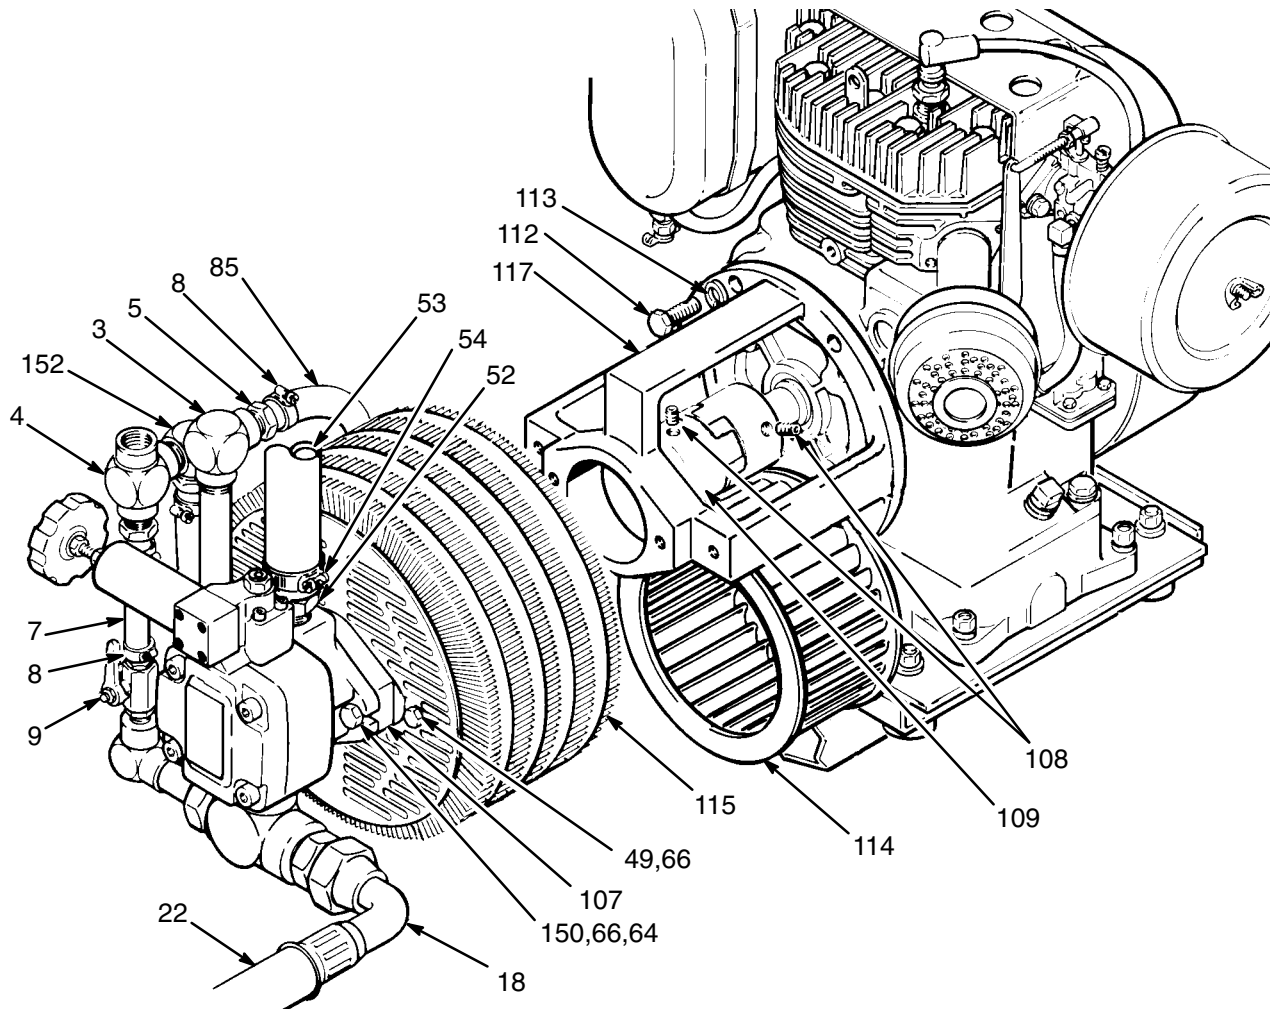
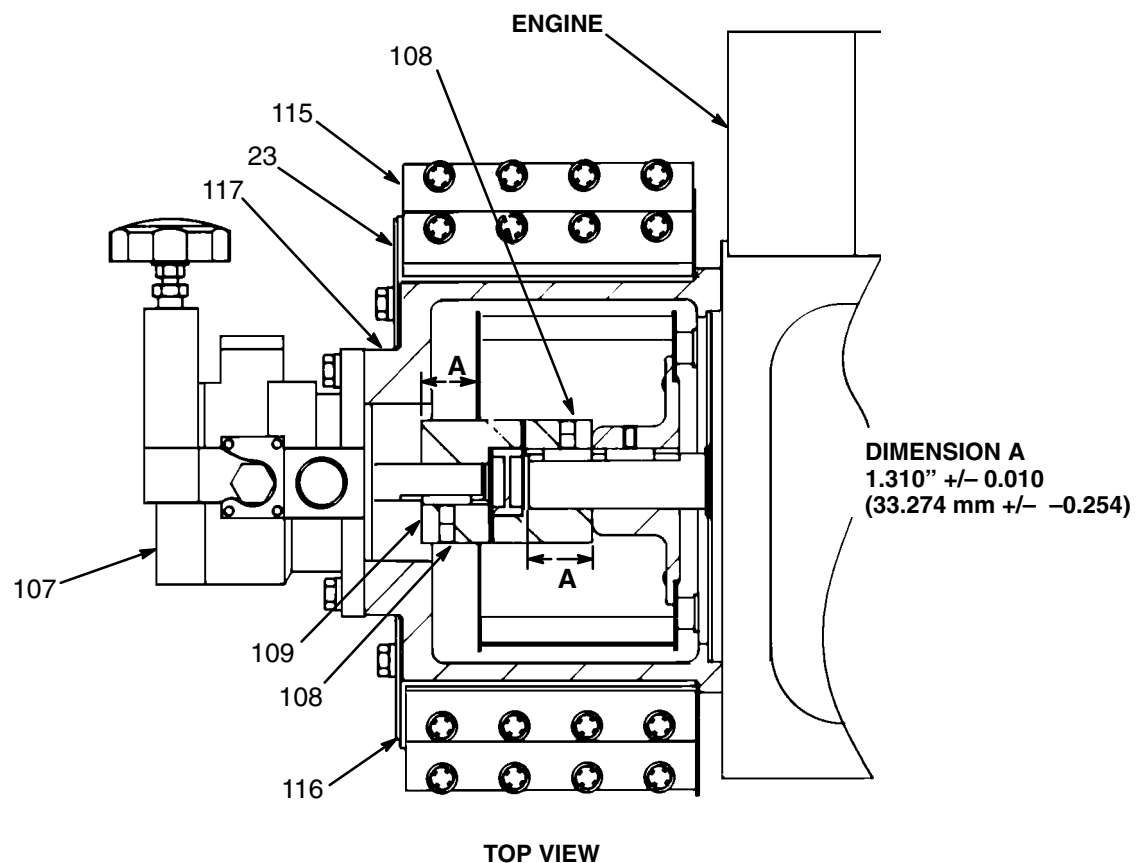

Fig 12
Fig 13
2. Unscrew the reservoir drain plug (51), having a container ready to catch the draining fluid.
3. Disconnect the hose (7) from the bypass valve (9) by loosening the hose clamp (8). See Fig 12.
4. Loosen the hose clamp (8) and pull the hose (85) off the hose insert (5) near the elbow (3). See Fig 12.
5. Loosen the hose clamp (54) on the hose (53) just above the hydraulic pump (107). See Fig 12.
6. Loosen the tube fitting nut (18) of hose (22). See Fig 12.
7. Remove the two capscrews (150), lockwashers (66) and washers (64) holding the pump (107) to the support (117). See Fig 12.
9. Loosen the setscrews (108) on the pump half of the coupler (109). See Fig 13.
11. Check Dimension A as shown in Fig 13. When the dimension is correct, tighten the setscrews (108), slide the new pump assembly onto the pump support (117) and recheck the dimension.
3. Disconnect the cooler to reservoir return hose (7.) by loosening the hose clamp (8). See Fig 12.
4. Remove the cooler capscrews (49) and lockwashers (66). See Fig 12.
5. Remove the fan guard (23). See Fig 12.
6. Pull the cooler (115) straight out.
7. Inspect the rubber pad (116) for wear and replace if necessary. See Fig 13.
8. Inspect the blower wheel (114) for wear. See Fig 12. If it needs to be replaced, follow Steps 8a–8e.
- a. Unscrew the setscrews (108) from the engine half of the coupler (109). Unscrew the blower setscrews (B). See Fig 13.
- b. Remove the capscrews (112) and lockwashers (113) holding the pump support (1 17) to the engine and pull the support off. See Fig 12.
- d. Install a new blower. Secure the pump support (117) to the engine. See Fig 12.
- e. Check Dimension A as shown in Fig 13 and tighten the coupler setscrews (108). Butt the blower hub up to the coupler half, keeping the blower in full contact with the coupler, and tighten the blower setscrews (B).
10. Fold the flaps of the pad (116) toward the cooler fins and install the fan guard (23), capscrews (49) and lockwashers (66). See Fig 12.